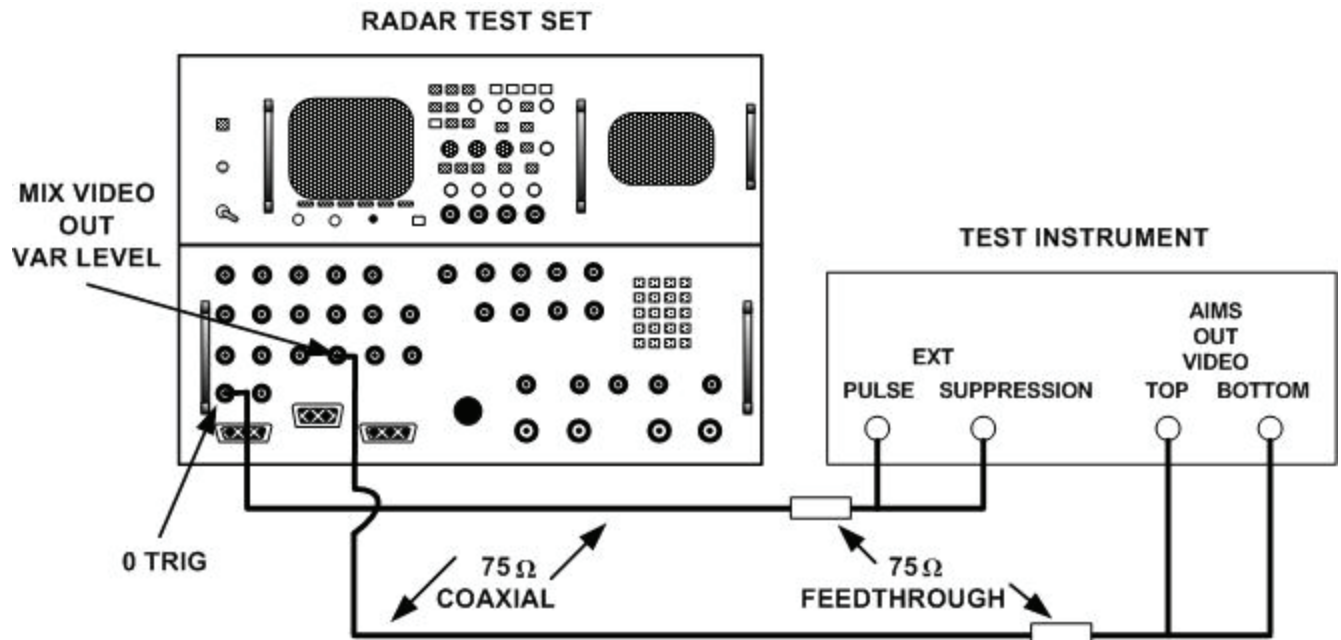

Figure 3. Counter/decoder - equipment setup.
(1) On radar test set, press pushbutton **FUNC**, **ENTR**. Wait a second and press **ENTR** pushbutton and then **ENTR** pushbutton again.
(2) Connect equipment as shown in figure 3.